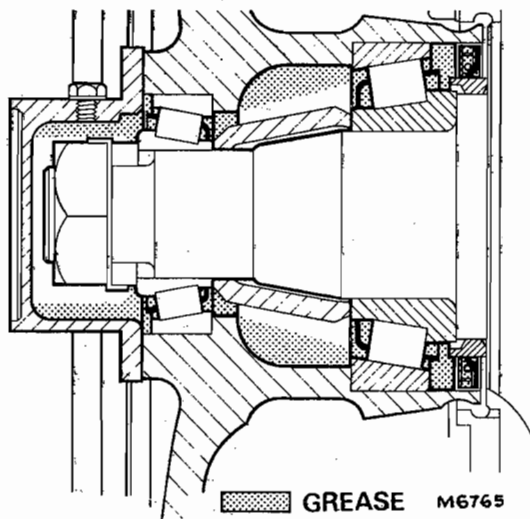

FIG. 6 HUB GREASING
9. Knead grease as specified in Group 1 well into the bearings and partly pack the cavity between the inner bearing and oil seal as shown in Fig. 6. The shaded areas in this illustration indicate where grease is to be applied.